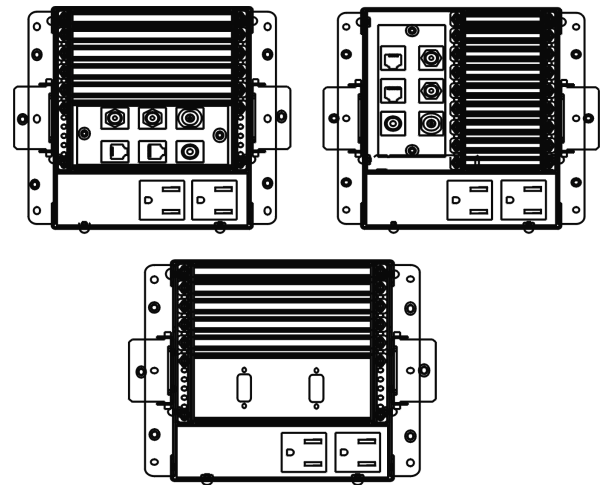

Figure 4: Custom Modifications
Step 5. Connect the appropriate cables with the correct input connectors of the media sources (video, audio, etc.) being used. The **CNK100** may be custom modified to fit your connector needs. (See figure 4)